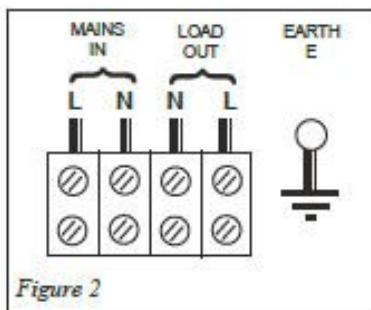

Figure 2
- v. Using a fused double pole switch for the mains input, wire the unit as shown in Figure 2. **IMPORTANT** Use cable of cross-sectional area not less than 1.0sq. mm and fuse at 5A. The use of 20mm conduit is recommended (use male thread adaptor with lock-ring e.g. Ega type EMA 1ZM). Alternatively fit a 20mm nylon compression cable gland to provide strain relief.